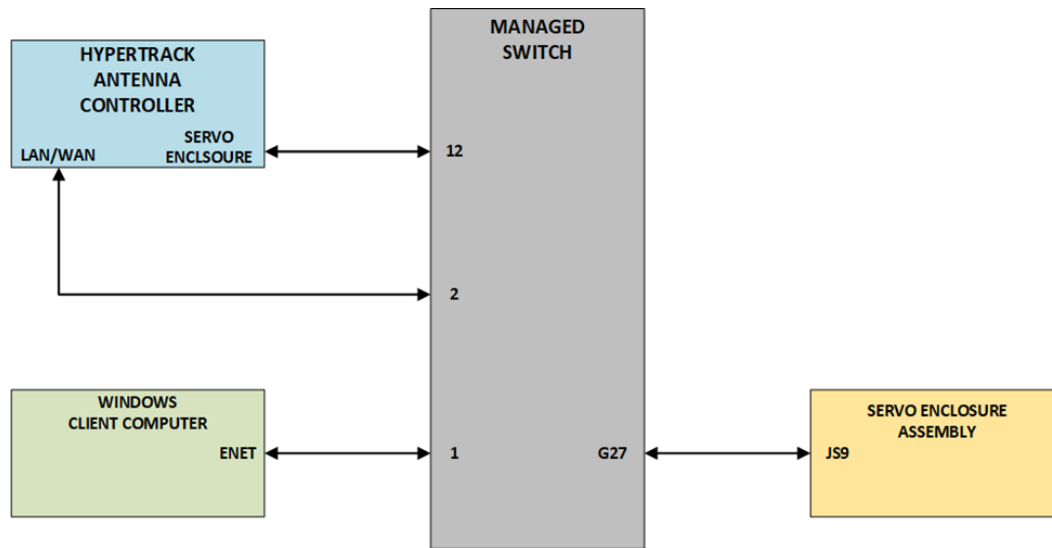

Figure 7: HTAC Communications Block Diagram
The typical Ethernet communication layout scheme, for the HyperTrack™ Antenna Controller (HTAC), as well as the connected Windows Client (PC) computer, the managed switch (control room), and the external System Servo Assembly, is shown Figure 7. All connections are CAT 5/6. The communication lines between the switch and the Servo Assembly can be either Fiber Optic (FO) or Wired (RJ45), depending on the tracking system selected and the distance between the control room (HTAC) and the Servo Assembly.